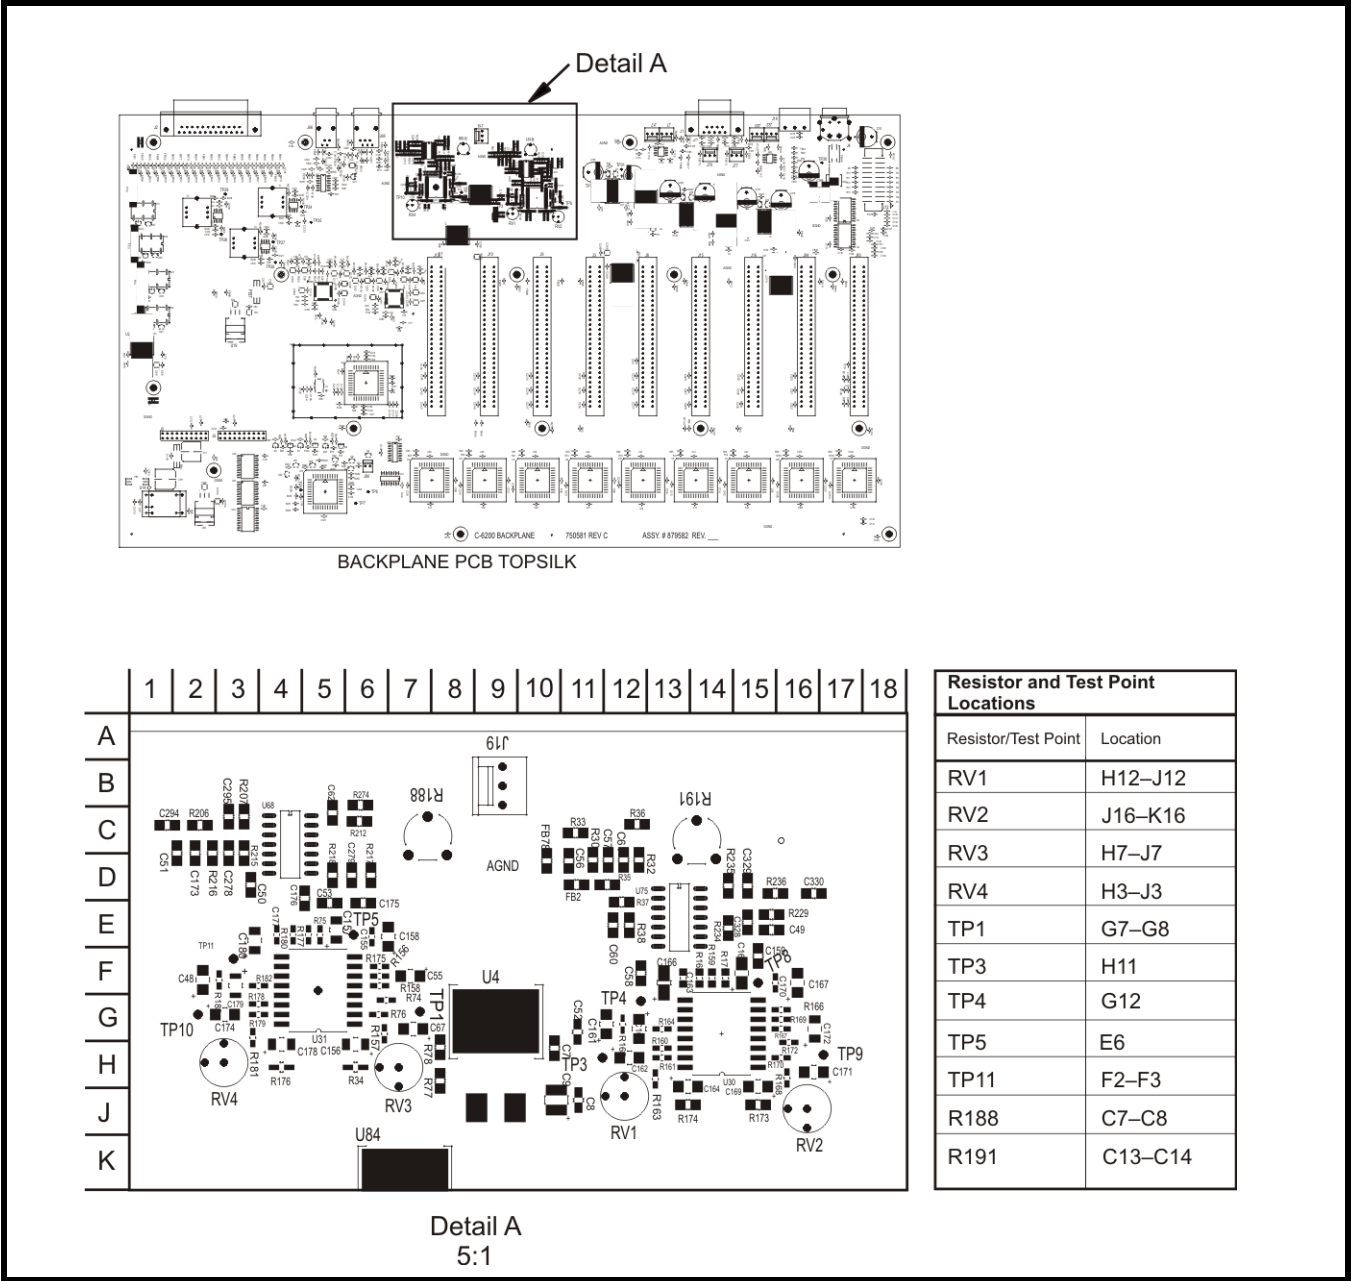

FIGURE 12. Backplane Resistor Locations
If only one (1) console is attached, configure the unit using the table in Figure 12. This configuration makes it the effective master and terminates the line with 600 Ohms.
5. Measure the **voltage**, using a voltmeter at indicated test points, See Figure 12 on page 49 for locations.